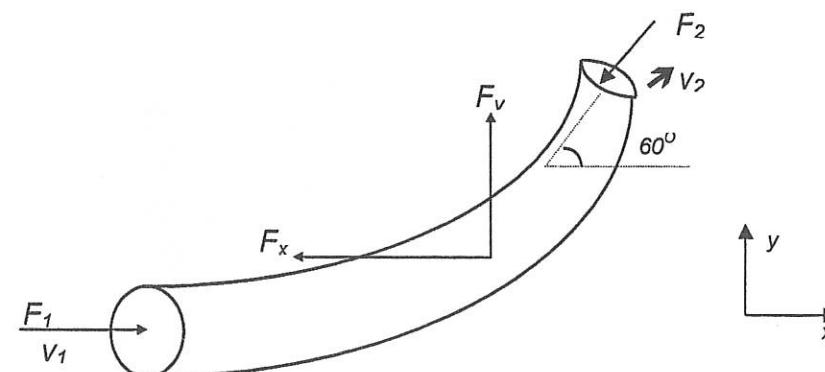

Figure B2/Rajah B2
- A tapering pipe bend, from 500mm to 300mm in diameter, is installed to deviate the flow in a horizontal pipeline as shown in Figure B2 below. The pressure at the inlet is 120kPa and the rate of flow is 500litres/sec. Determine the magnitude and direction of the resultant force acting on the pipe bend.